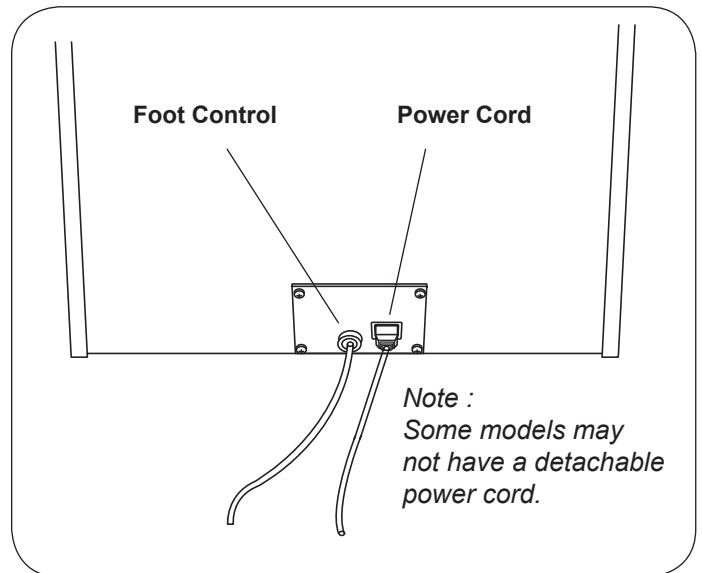

Figure 10 Power Cord and Foot Control.
5. Remove the foot control from the rear drawer. Insert the foot control cord into the receptacle at the bottom of the rear panel (Figure 10). Secure with locking ring.
6. Remove the gray power cord from the rear drawer. Plug the power cord into the socket at the bottom of the rear panel (Figure 10). Plug the power cord into a 120 Volt grounded receptacle.
2. Insert the female plug end of the power cord into the receptacle on the table (Figure 10). Make sure the tabs are aligned and the plug is fully seated.
1. Insert the male plug of the foot control cord into the receptacle on the table (Figure 10). Make sure the pins are properly orientated and the plug is fully seated.